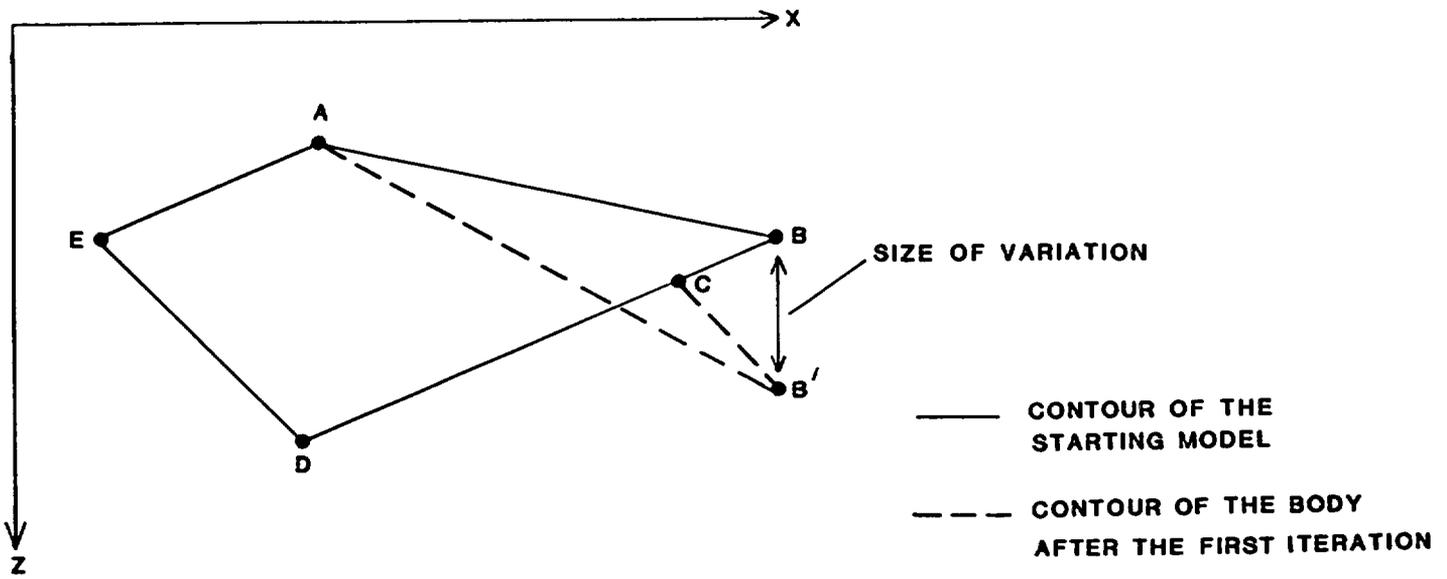

Fig. 7a - The sides AB' and CD of the body are twisted without the moving corner-point ever crossing a side. The program will not detect this error.
(3) It is possible that the variation of an outer corner-point will move that point across sides of the same polygon (Fig. 7a).